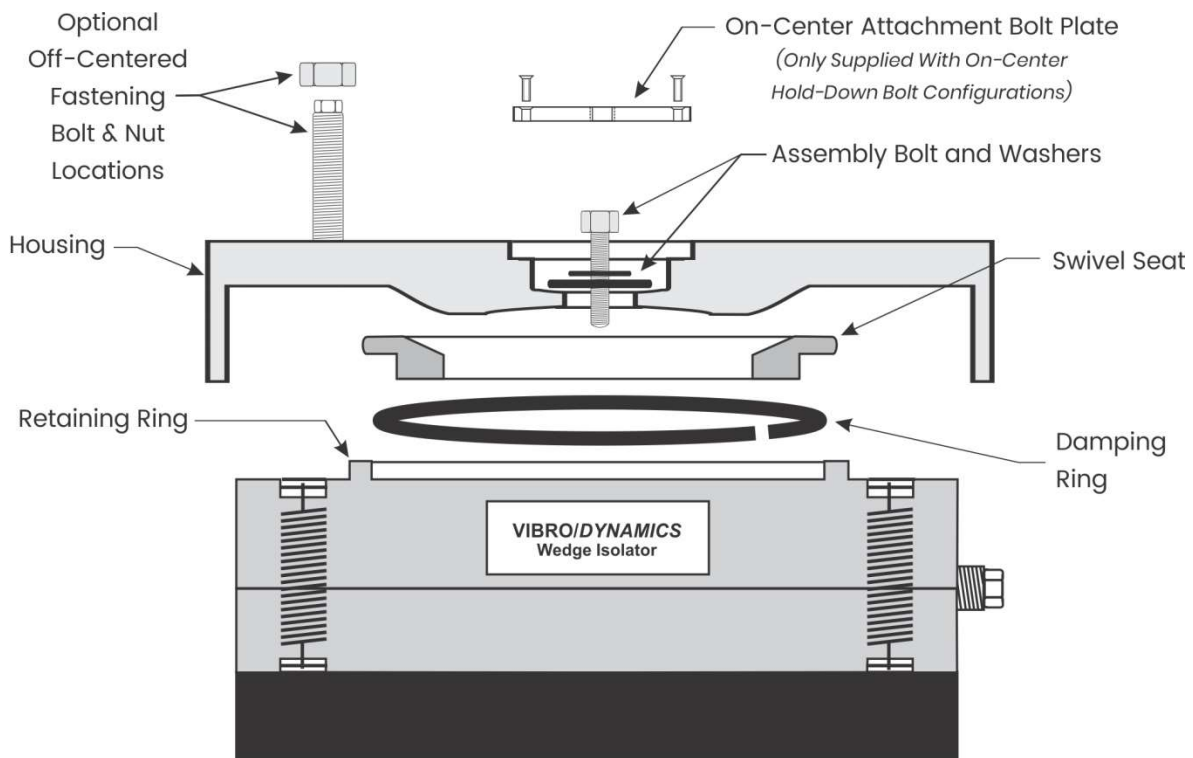

FIGURE 4
- A. Remove On-Center Attachment Bolt Plate Assembly if supplied with the Isolator. (See Figure 4).